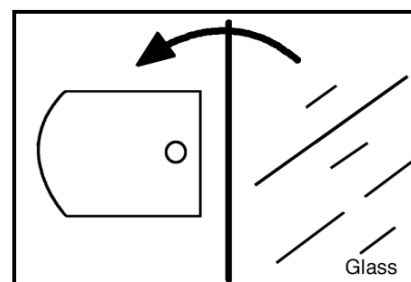

Fig. 1.
2. Turn the brackets so that the glass can be removed and cleaned at the sink (Fig 1.)